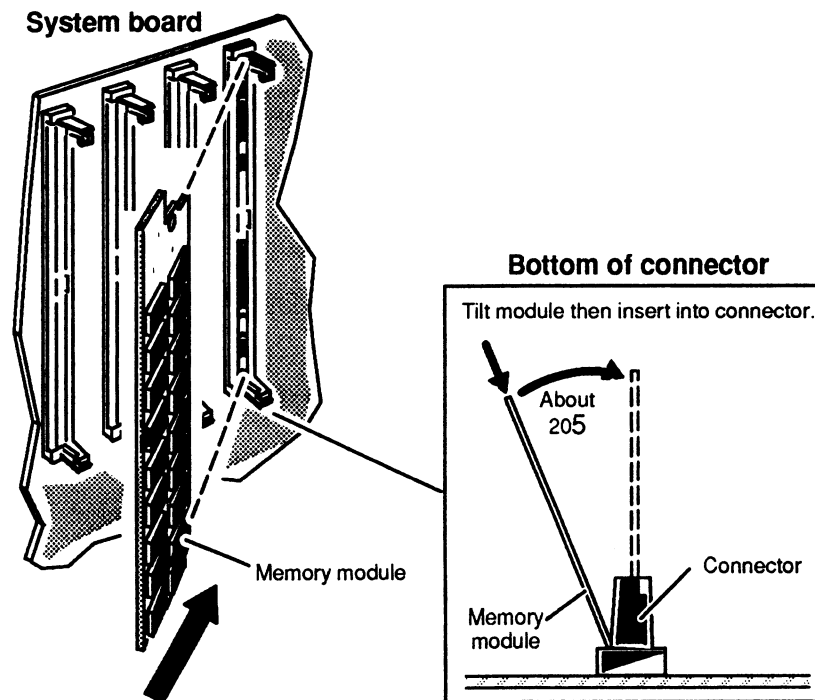

Figure 3-5 Installing the Memory Module in the Connector
2. Position the memory module in the connector at approximately a 20° angle as shown in Figure 3-5, and *gently* push the top of the module right towards the perpendicular. You will hear a click as each connector tab locks the module into place.